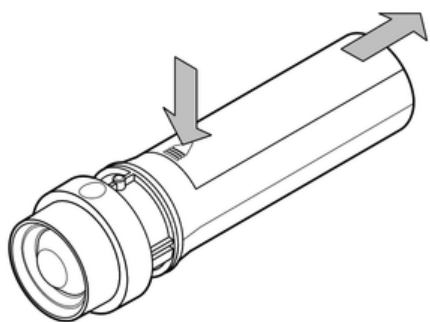

Fig. 3
2. Gently press and slide open the battery cover (Fig. 3).
2. Open the battery cover (Fig. 3).